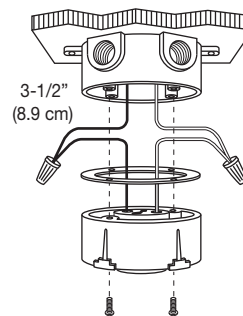

Figure 2b
##### 3b. Using a 4-1/8" (10.5 cm) round box (Figure 2b):
- Attach the socket assembly to the adapter ring using the socket assembly mounting screws (Figure 2b).